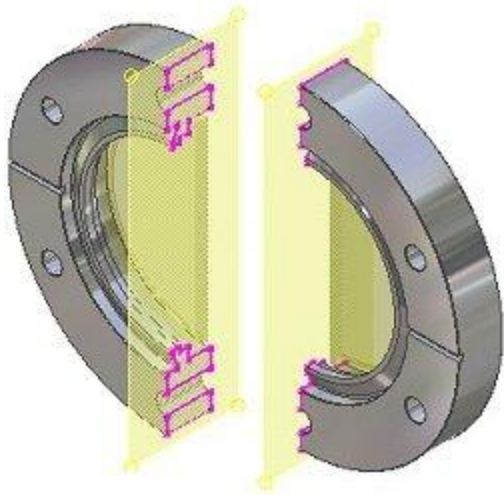

Figure 5: Half-Section View and Flipped Section.
4. Right-click in the graphics window and select Flip Section from the pop-up menu. The original section and the flipped section are shown in Figure 5.